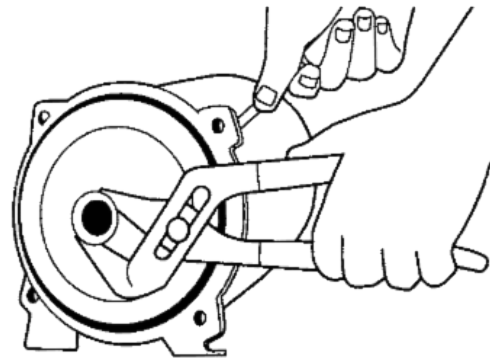

Figure 25: Remove Impeller
4. Remove the impeller by holding the pump shaft with a screwdriver placed in the slot end of the motor shaft and rotating the impeller counterclockwise (Figure 25).
3. Remove the 3 cap screws holding the diffuser to the seal plate and remove the diffuser. When replacing the diffuser, use three .010" thick shims equally spaced between the impeller eye and diffuser opening. This centers the diffusers and prevents impeller rub (Figure 25).